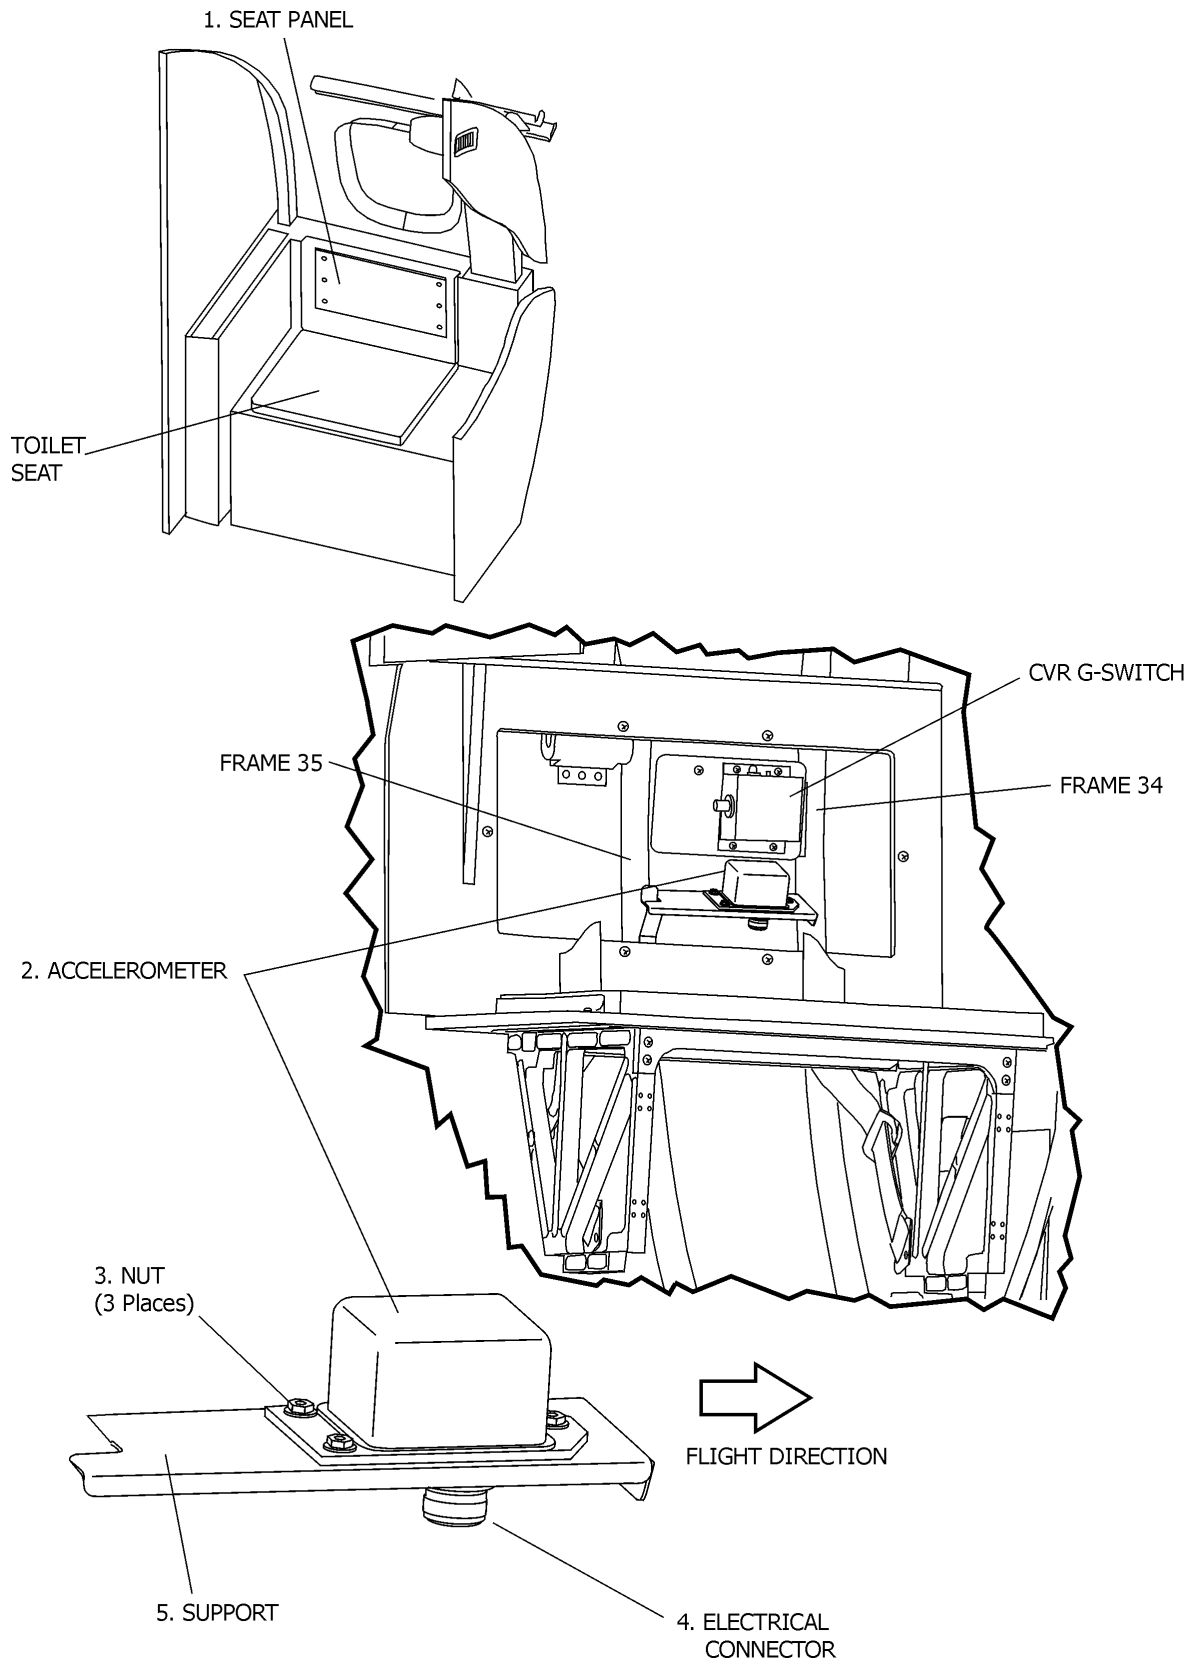

Fig. 205 - CVDR Accelerometer (Nordam Interior) - Removal / Installation
13. CVDR Accelerometer (Nordam Interior)- Removal(Refer to Fig.205)
- (4) Remove the cushion located to the toilet seat back.
- (5) Remove the Seat Panel (1).
- (6) Disconnect the Electrical Connector (4) from the Accelerometer (2).
- (7) Remove the three nut (3) that secure the Accelerometer to the support (5).
- (8) Remove the Accelerometer.
- (9) Cap and stow the electrical connectors and the wiring harness from dust if replacement unit is not to be installed immediately.
14. CVDR Accelerometer (Nordam Interior) - Installation(Refer to Fig.205)